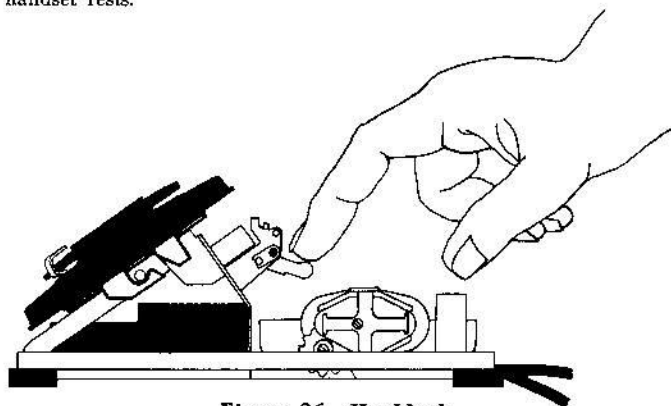

Figure 26. Hooklock.
18.2 If telephone is connected to the line, push hooklock actuating lever downward (figure 26) to its locked-open position so that the line is not held busy and incoming calls are not lost while work is being done inside the telephone.
As stated in §18.3, when working inside the telephone, press down the hooklock lever (figure 26).
Remove housing (§18). Push hooklock lever down (figure 26) if telephone is connected to the line. From the transmission-unit disconnect the four cord leads from terminals 5T, 3C, 12, and 11. Loosen cord-clamp screw (at the left of the cord leaving telephone), remove clamp, loosen the 3 ringer-mounting screws (figure 15), and pull out old cord.